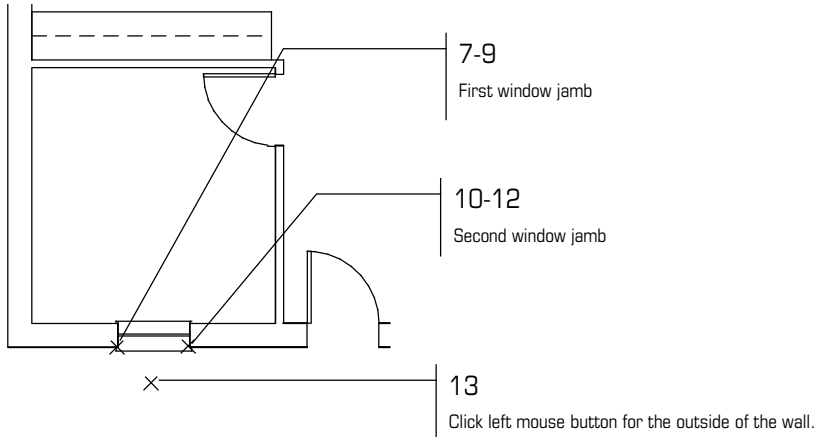

**Figure 3.43:** Setting a reference point
6. Click the middle mouse button near the lower left corner of the interior wall shown in Figure 3.43. This will be your reference point. You are prompted to *Select one jamb of window.*